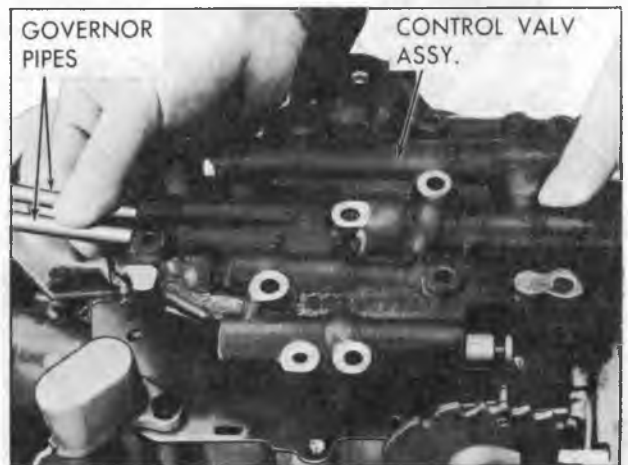

Figure 10—Removing Control Valve and Governor Pipes
3. Remove control valve body assembly and governor pipes (fig. 10).